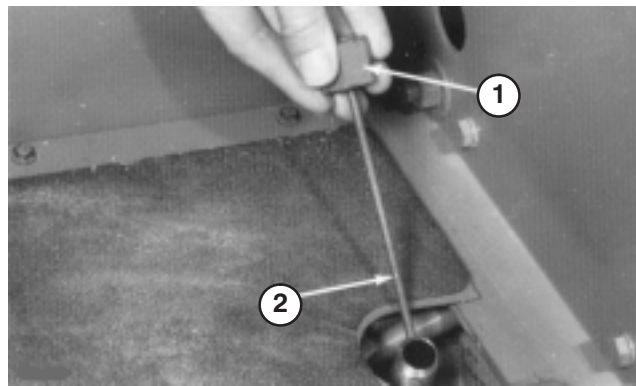

Figure 20
2. Unscrew dipstick cap (Fig. 20) from the filler neck and wipe it with a clean rag. Screw dipstick cap finger tight onto filler neck. Unscrew the dipstick and check level of oil. If level is not within 1/2 in. (13 mm) from the groove in the dipstick (Fig. 20), add enough oil to raise level to groove mark. **Do not overfill** by more than 1/2 in. (13 mm) above groove.